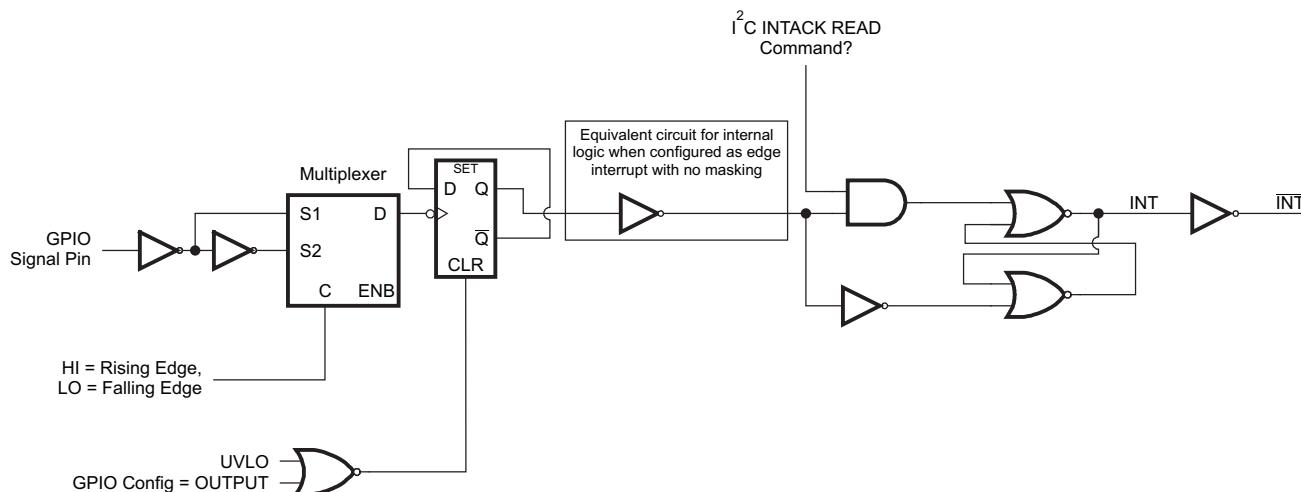

Figure 58. GPIO 1 or GPIO2 Configured as an Interrupt Request Input
See Figure 58 for a description of the logic used for GPIO1 and GPIO2 inputs when configured for edge-triggered interrupt generation. The signal from the GPIO pin input is double-latched before being sent to the interrupt controller logic. The inversion of the Q output from the first flip-flop must be HI to allow the output latch to be cleared when a READ command occurs. On the initial edge of the GPIO signal, the Q output of the flip-flop is set (HI). The INT line is asserted (LO) after the initial selected edge from the GPIO pin. On the next falling (or rising) edge of the GPIO pin, the interrupt can again be cleared (which allows the INT pin to go back high). The INT signal is cleared (set back HI) after an I²C READ operation is performed.